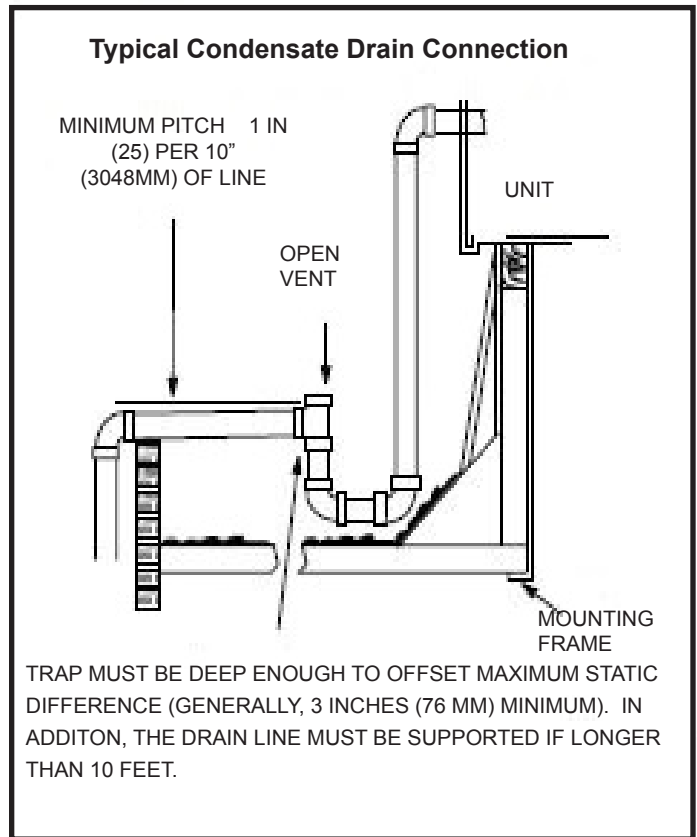

Figure 5
**The condensate drain line must be properly trapped and routed to a suitable drain.** See Figure 5 for proper drain arrangement. The drain line must pitch to an open drain or pump to prevent clogging of the line. Seal around the drain connection with suitable material to prevent air leakage into the return air system.